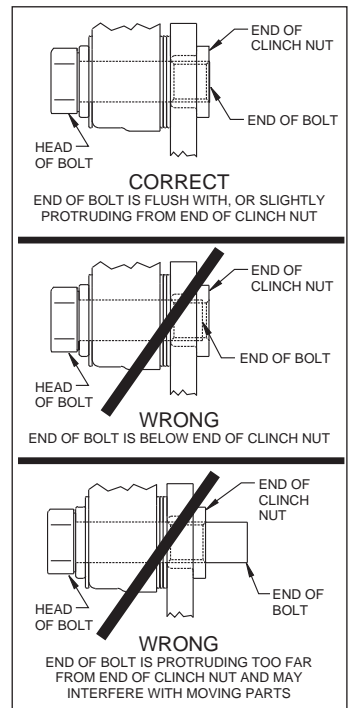

Figure 3. Clinch Nut Engagement Diagram
Assembly Instructions (numbers in parenthesis refer to the parts list, on the preceding page and Figure 1): **CAUTION:** All mounting bolts must fully engage clinch nuts. Be sure to check that all bolts are either flush or protruding through flanged side of clinch nut after shimming, Figure 3.
- Pack the small outer bearing cone (15) with high temperature disc brake bearing grease and install into hub (8). Slide the hub/rotor/hat assembly onto the spindle. Secure using OEM spindle washer and spindle nut, Photo 8. Adjust bearings per OEM specifications. Install saved OEM nut lock (if any) and a new cotter pin (not supplied).
- Screw dust cap (18) into hub (8), Photo 9. Friction created by the o-ring (17) on the dust cap keeps it from unscrewing.
- NOTE:** Please reference the caution statement at the beginning of the assembly instructions. Mount the caliper (19) onto the caliper mounting bracket (1) using bolts (21) and washers (20), as shown in Figure 1. Initially place two .035" thick shims (22) on each bolt between the caliper and the bracket, Photo 10. Temporarily tighten the mounting bolts and view the rotor (12) through the top opening of the caliper. The rotor should be centered in the caliper, Photo 11. If not, adjust by adding or subtracting shims between the bracket and the caliper. Always use the same amount of shims on each of the two mounting bolts. **NOTE:** The end of each bolt must be flush with or slightly protruding from the head of the clinch nut, as shown in Figure 3. If necessary place spare shims between washer (20) and caliper mounting ear to achieve the proper clinch nut engagement. Once the caliper alignment and clinch nut engagement are correct, remove the bolts one at a time, apply red *Loctite*® 271 to bolt threads, and torque to 40 ft-lb.
- Install the disc brake pads (23) into the caliper, with the friction material facing the rotor (12), and secure in place using cotter pin (24), Photo 12.